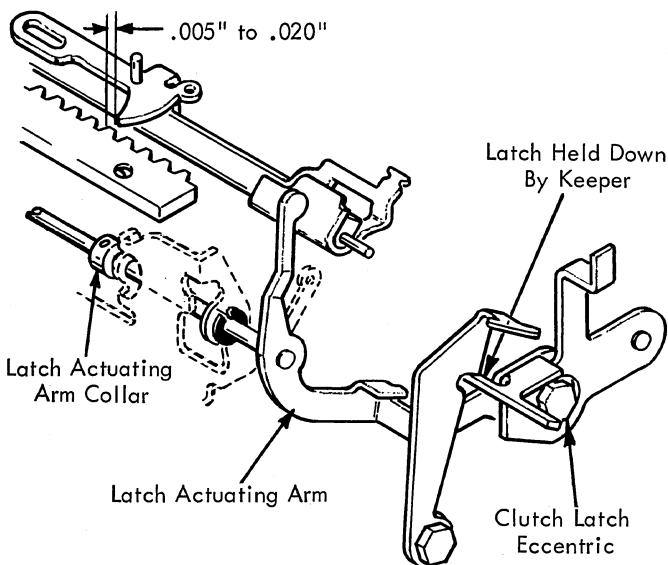

FIGURE 147.1 Pawl Clearance Adjustment
1. Pawl Clearance - Adjust the clutch latch eccentric so that the escapement pawl will clear the rack teeth by .005" to .020" when the latch is being held down by the keeper (Fig. 147.1). NOTE: The latch actuating arm collar should be adjusted for .001" to .007" end play of the latch actuating arm (Fig. 147.1) prior to making the pawl clearance adjustment.